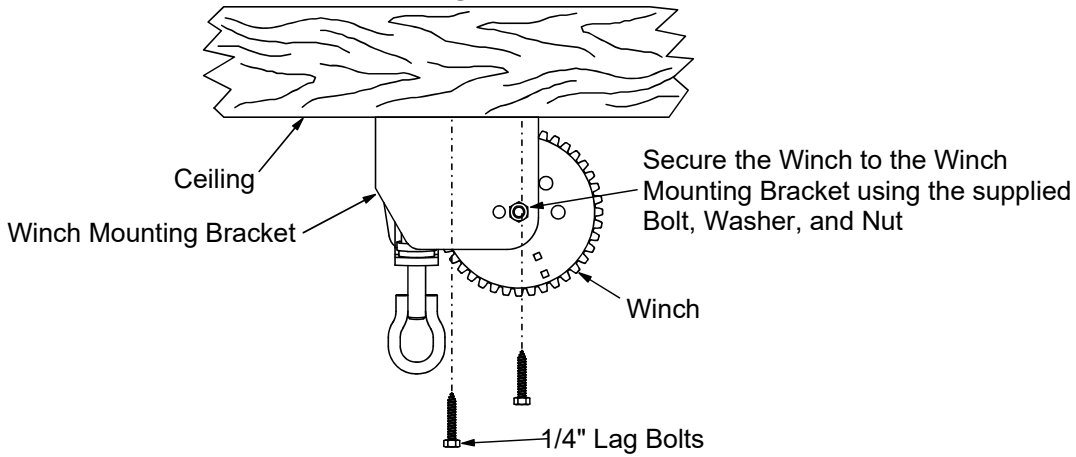

Figure 5. Winch Mounting
4. Mount the split drum winch as shown in **Figure 5**. Mount the winch to the ceiling or on a 2 x 8" [50x200 mm] board spanning at least two rafters for support. Use at least (4) 1/4" lag screws (not supplied) to secure winch to support.
5. Bolt the winch to the bracket, as shown in **Figure 5**.